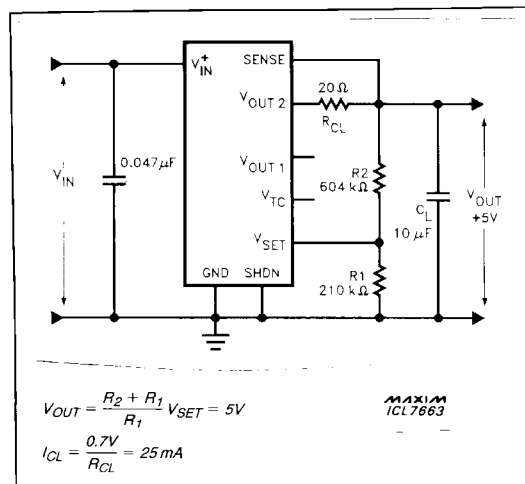

Figure 3. Maxim's Application of ICL7663 (Positive Regulator, Current Limit).
**Note 4:** This output has a positive temperature coefficient. Using it in combination with the inverting input of the regulator at  $V_{SET}$ , a negative coefficient results in the output voltage. See Figure 3 for details. Pin will not source current.
Figure 3 shows a typical positive voltage regulator using the ICL7663. The input voltage,  $V_{\text{IN}}$ , can range from a maximum of  $16\text{V}$  to a minimum of the output voltage plus the input-output differential. The output voltage is set by the resistors  $R_2$  and  $R_1$ , and the output current limit is set by  $R_{\text{CL}}$ . The  $0.047\mu\text{F}$  capacitor on the input limits the rate-of-rise during power-up and also removes some of the high frequency noise on the input voltage. In Figure 3, the logic shutdown is not used and is therefore grounded.  $V_{\text{OUT2}}$  should be connected directly to SENSE if current limiting is not used.
The Maxim ICL7663A  $V_{SET}$  voltage is guaranteed to be  $1.30V \pm 25mV$ , eliminating the need for trim pots in most cases. Specifically, using the Maxim ICL7663A and the resistor values shown in Figure 3, the initial voltage will be within  $\pm 2.7\%$  of 5V, assuming  $\pm 1\%$  tolerance resistors. The output voltage will remain within  $5V \pm 5\%$ , over  $0-70^\circ C$ . This tolerance includes the effect of ICL7663A  $V_{SET}$  error, the  $\pm 1\%$  initial tolerance on both resistors, and the resistor ratio temperature coefficient of nearly  $200 \text{ ppm}/^\circ C$ . Since the resistor ratio temperature coefficient is generally much lower than the absolute temperature coefficient, 100 or 200 ppm resistors can be used, even over the full temperature range while still allowing the output to stay within 4.75V–5.25V.
The circuit in Figure 3 will limit the output current to approximately 35mA. Current limiting will start, when the output current exceeds 35mA and the voltage drop across the  $20\Omega R_{CL}$  is 500mV. For other current limits the value of  $R_{CL}$  can be calculated from the formula: